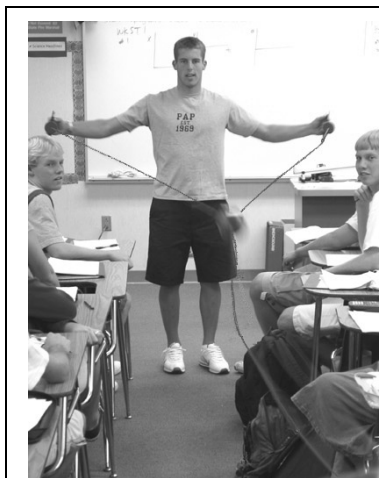

Figure 2: Flying the Doppler Rocket Along a Taut Rope
8. Have the student nearest the rocket quickly pull apart their handles in a snapping motion. The Doppler Rocket should “fly” down the ropes to the other student (See Figure 2).